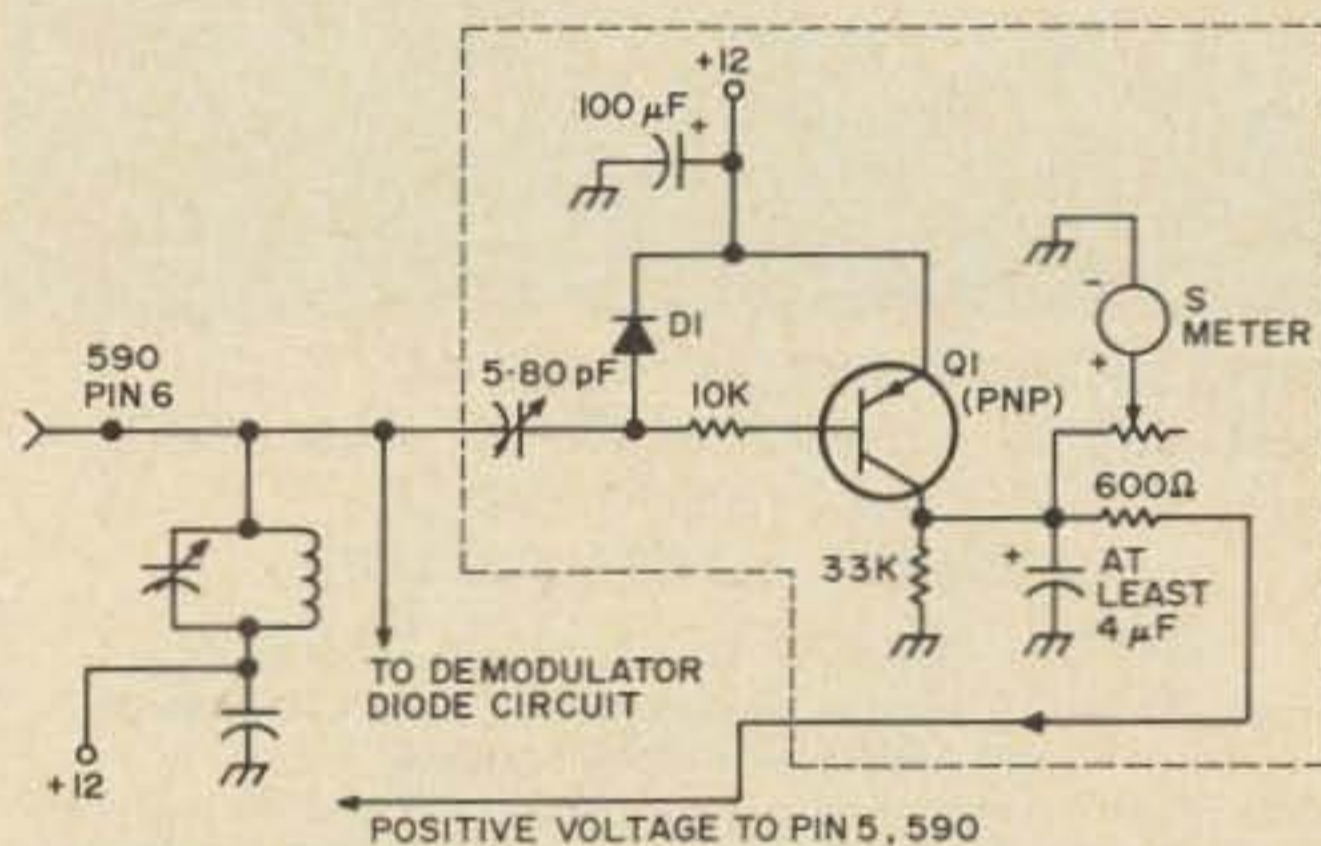

Fig. 9. AVC module.
Referring to Fig. 9, pin 5 of the HEP 590
across the avc amplifier collector resistor (Fig. 9).
Figure 9 shows the final circuit which holds the rectified dc voltage down to less than 1V—even on those Texas kilowatts. A PNP transistor is used in an “upside-down” fashion as the avc amplifier. An advantage of the use of an avc amplifier is that very little of the i-f energy is needed to operate the avc system, and no noise at all is contributed by it to the signals.
*How it works.* Referring to Fig. 9, a small portion of the 135 kHz i-f energy is taken off the IC output inductor through the trimmer C1 and fed to diode D1. Capacitor C1 is a very handy place to adjust the amount of avc action. With a meter checking the dc output of the demodulator, backing off on C1 drops the avc output and raises the diode voltage to a point where D2 overloads. Increasing C1 raises the avc output and drops the voltage on D2 to less than 1V on the loudest signals. You can set this to suit your own fancy.